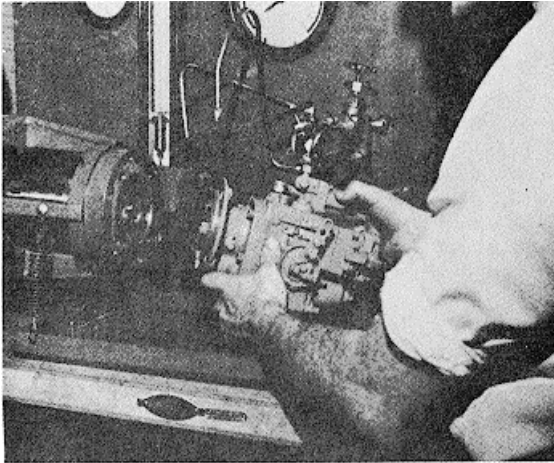

Fig 5-1-4, F5168. Mounting fuel pump with buffer type drive
1. Install the proper drive coupling to test stand, which matches pump drive shaft coupling, so pump being tested may be driven. See Fig. 5-1-4 and 5-1-5.